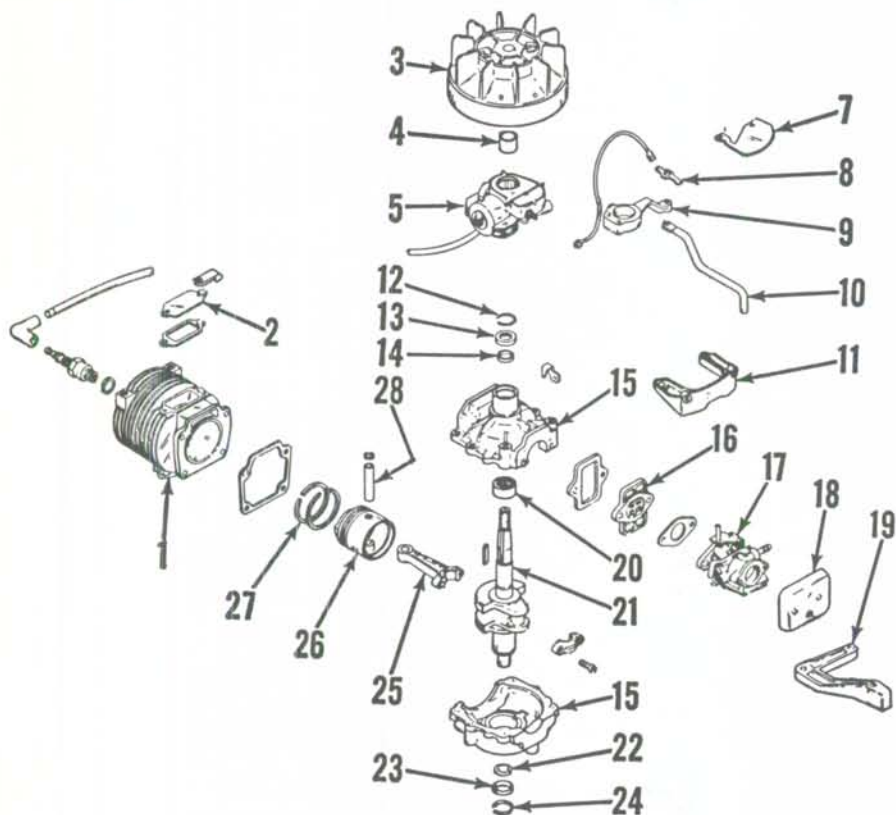
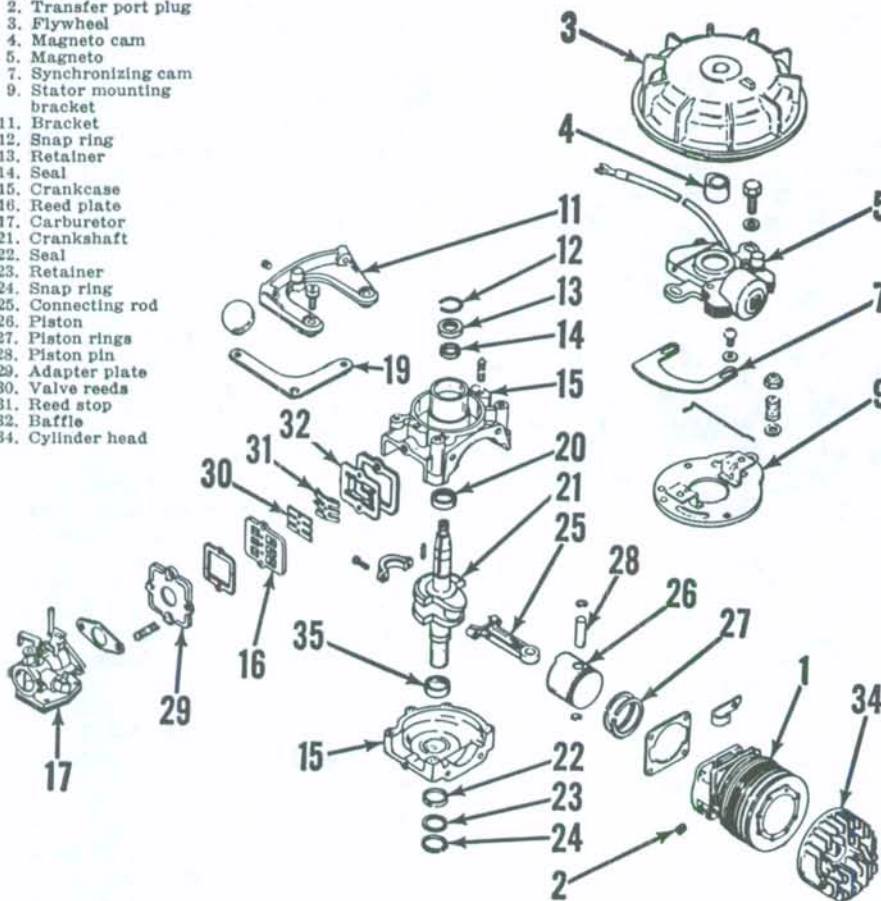

Fig. T1-14—Exploded view of Model V51 power head especially designed for outboard motor application.
Fig. T1-15—Exploded view of power head, typical of V58 and V61 models.
DISASSEMBLY. Model V51 power heads use a closed end cylinder as shown in T1-14. Models V58 and V61 units have a detachable cylinder head (34—Fig. T1-15), a needle roller lower main bearing (35) and other differences apparent on examination or on reference to Figs. T1-14 and T1-15. Some V58 and V61 units use a steel connecting rod and loose needle rollers at crankpin and piston end. Model AV81 uses a steel rod with anti-friction bearings, a needle roller upper main bearing and a ball-type lower bearing. Refer to Fig T1-16 for an exploded view of typical AV81 engine. These differences will be noted where they materially alter overhaul procedure.